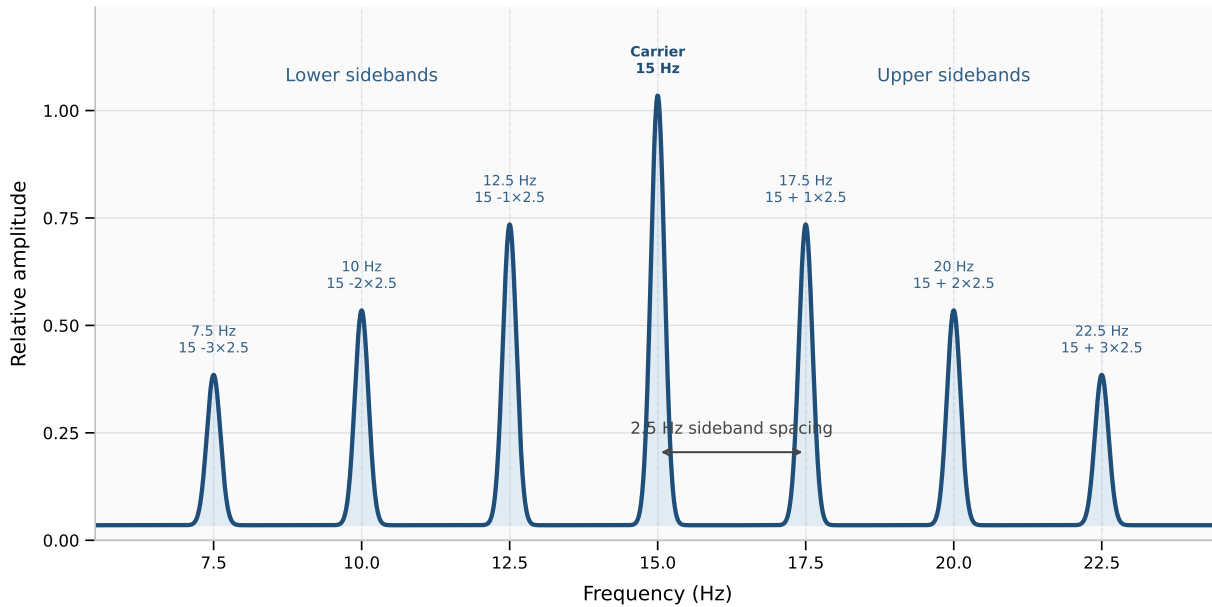

Figure 14: Sidebands caused by modulation
In radio, a carrier frequency is modified by amplitude (AM) or frequency (FM), the carrier doesn't disappear, instead, additional frequencies appear on either side of it. The same occurs with machinery. An AM sideband, caused by a damaged bearing clicking once per revolution, creates a periodic rise and fall in the amplitude of the high-frequency machinery noise. AM produces exactly one pair of symmetrical sidebands ($f_c + f_m$ and $f_c - f_m$). In FM modulation the frequency is shifted up and down. A rotating propeller shaft might vibrate causing the carrier frequency to speed up or slow down. FM produces an infinite series of sidebands (Figure 14 Page 24) spaced at intervals of f_m ($f_c \pm f_m, f_c \pm 2f_m, f_c \pm 3f_m \dots$). Suppose a gearbox produces a strong tone at 150 Hz and a propeller shaft rotates at 2.5 Hz. If the shaft causes the gearbox load to increase and decrease once per revolution, the 150 Hz gear tone is being modulated at 2.5 Hz. Instead of 150 Hz you get 145, 147.5, 150, 152.5 and 155 Hz.